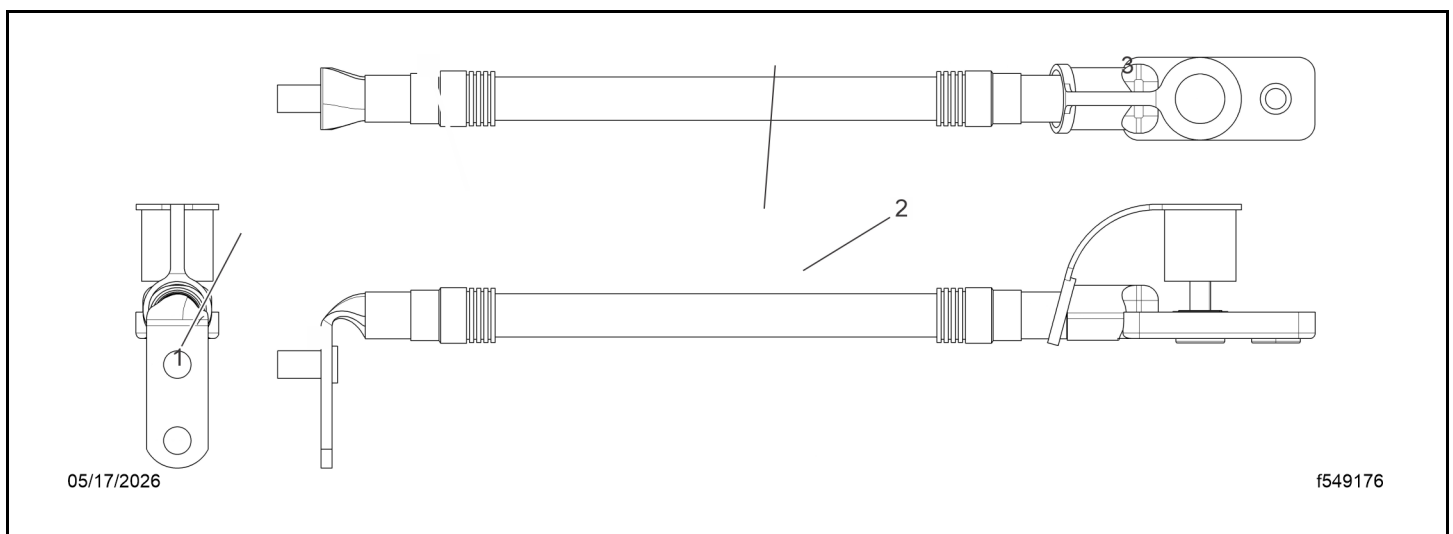

Fig 14, Jump-Start Cable Orientation
- g. Position the new terminal according to the orientation drawing. See Fig. Fig. 14.